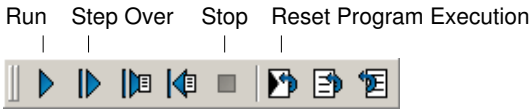

Figure 2.5: The basic execution buttons.
- Click **Execute > Run** or click the corresponding button from the tool bar (see figure 2.5).
- Click **Reset Program Execution** to reset the program to its initial state. (see figure 2.5).